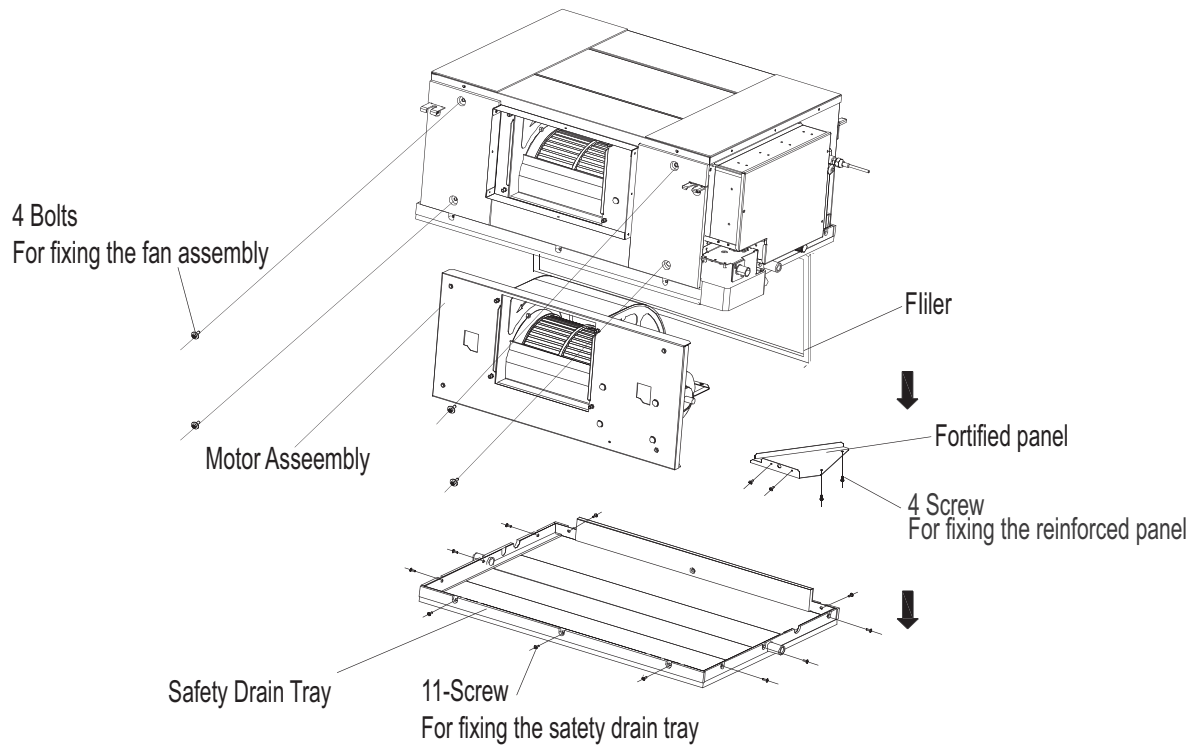

Fig. 38 —Fan Disassembly (024-036)
1. Horizontally push the fan assembly until it cannot not move any further (see Fig. 38).